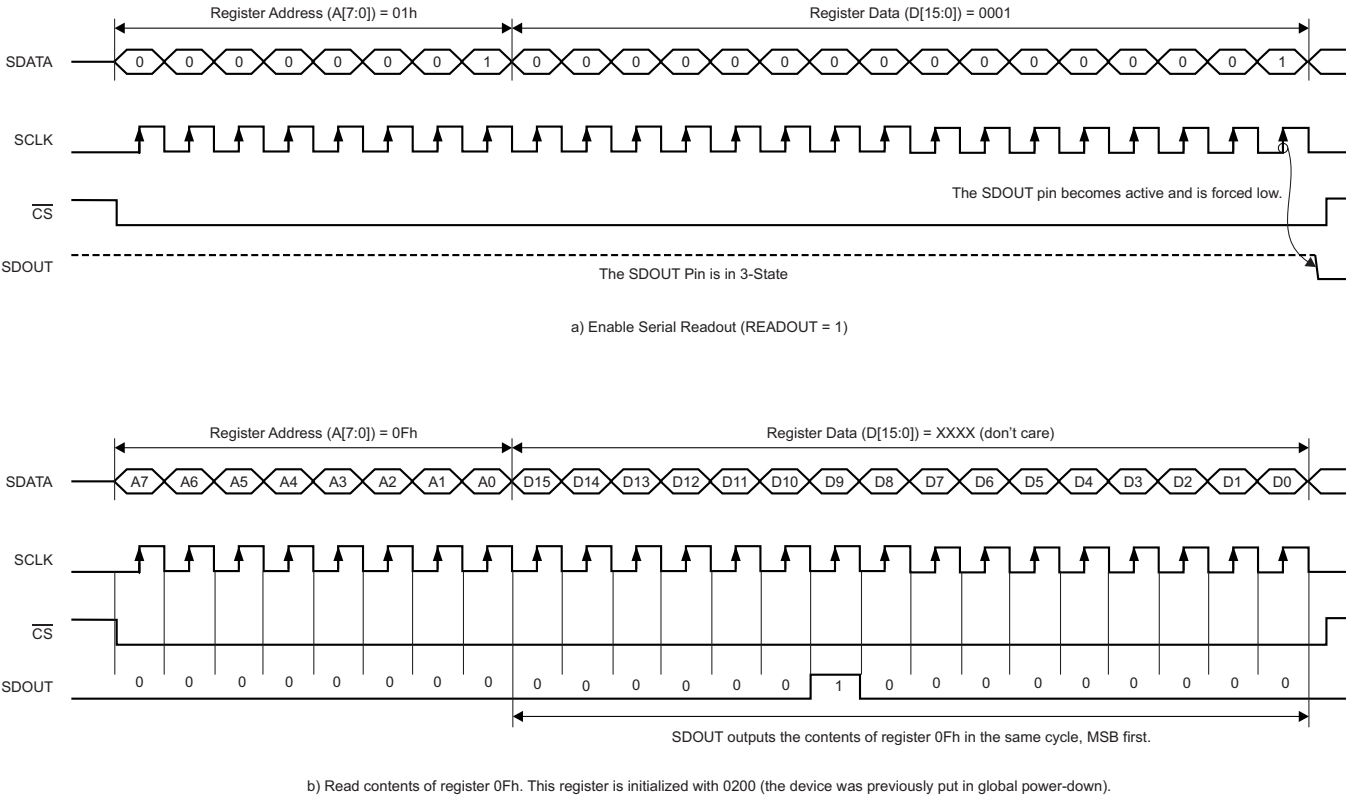

Figure 75. Serial Readout Functional Diagram
1. Set the EN_READOUT register bit to '1' See Figure 75(a). This setting puts the device in serial readout mode. This mode prevents any further writes to the internal registers, *except* for at register 01h. Note that the EN_READOUT bit is also located in register 01h. The device can exit readout mode by setting the EN_READOUT bit to '0'. Note that only the contents of register 01h are unable to be read in register readout mode.
3. The device serially outputs the contents (D[15:0]) of the selected register on the SDOUT pin See Figure 75(b).